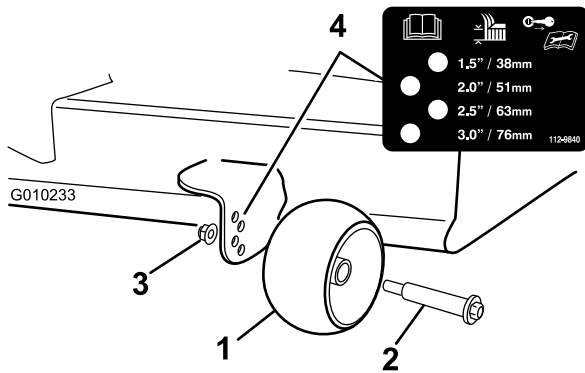

Figure 18
3. Adjust the anti-scalp rollers (Figure 18) to match the closest height-of-cut position.